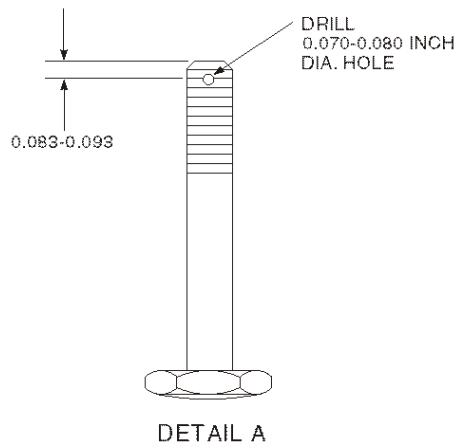

Figure B-295-1. Tailboom Support Strut Adjustable Diameter Bolt Inspection and Modification
- a. See Figure B-295-1 and note locations of aft cluster fittings and adjustable diameter bolts.
3. Using a drill press, drill 0.070-0.080-inch diameter hole through threaded portion of bolt, centered 0.083-0.093-inch from end of bolt as shown in Figure B-295-1.